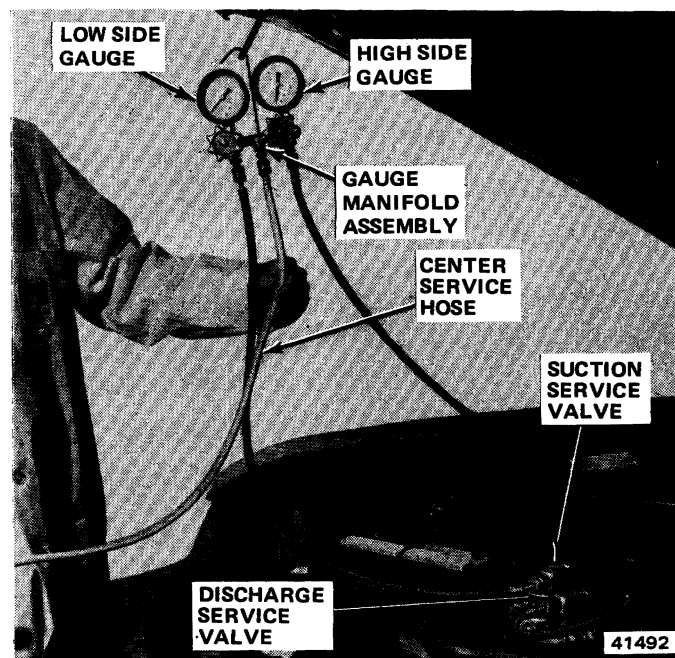

Fig. 22 Pressure Gauge and Manifold Connections for System Discharging
- (1) Connect pressure gauge and manifold assembly to compressor discharge service valves (fig. 22).